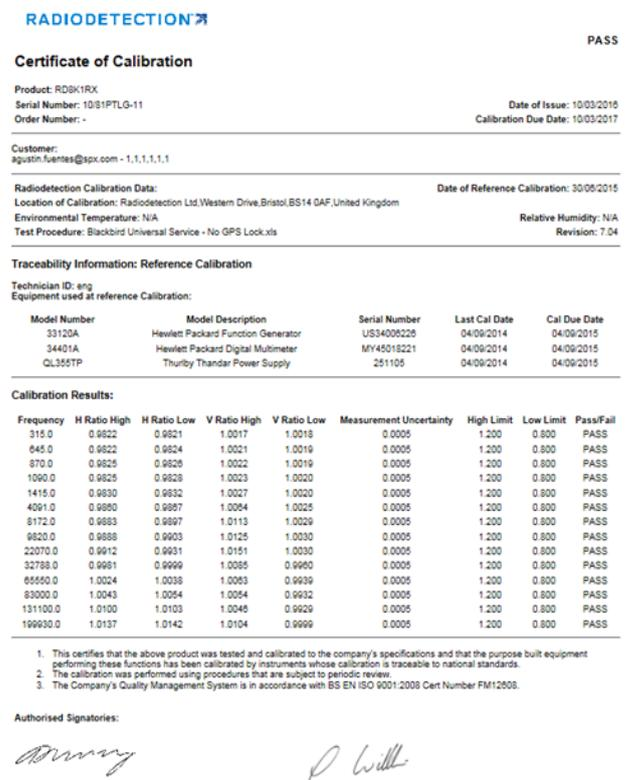

Figure 6.5: Calibration Certificate
The selected calibration certificate will open up in your default internet browser, figure 6.5.
10. The eCert Calibration result will automatically appear in your default internet browser, figure 6.5